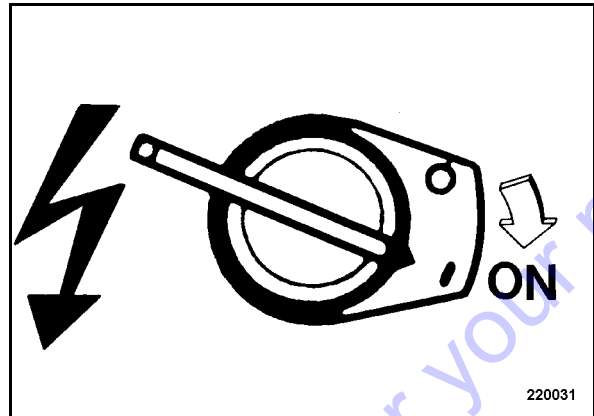

Fig. 20
- Turn the ignition switch (Fig. 20) to position "I" (ON).